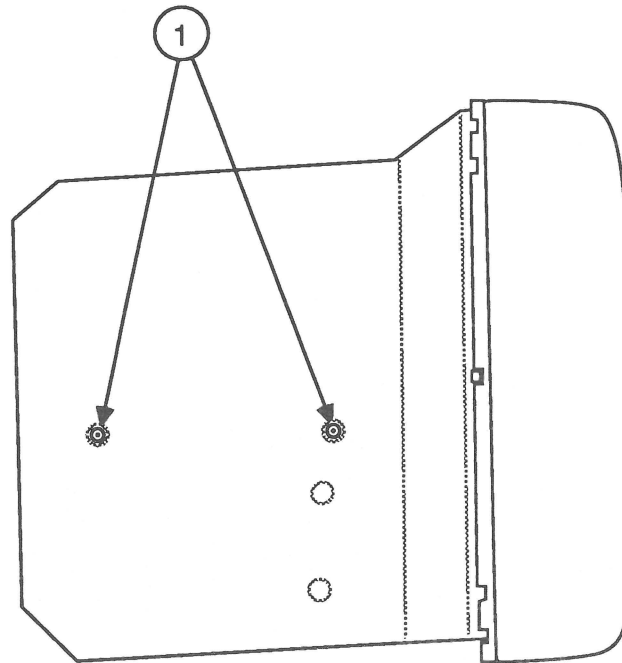

FIGURE 23
5. Remove the two screws that fasten the power supply to the chassis frame (Figure 23, #1).
4. Replace the two screws that fasten the power supply to the chassis frame (Figure 23, #1).